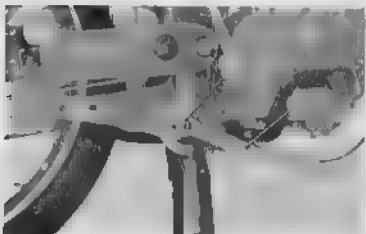

Fig. 4.61 Removing 3 mm cotter pin
- ③ Remove the 3 mm cotter pin ① from the rear brake pivot pipe (Fig. 4.61)
- ④ Remove the rear brake adjusting nut and remove the brake rod from the rear brake arm.